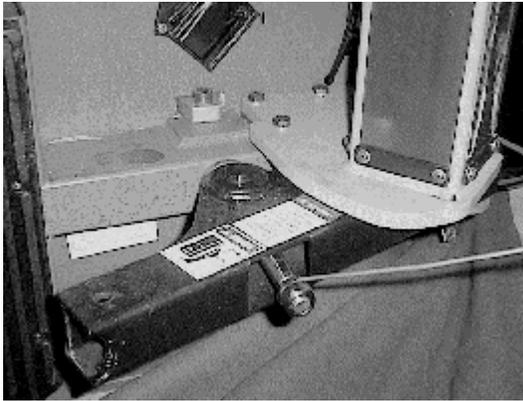

Figure 14
6. Bead Breaker: with bead breaker fully actuated, adjust the cylinder shaft head bolt until you see the outer fiber washer begin to compress. This adjustment prevents the plastic piston from bottoming out, and permits application of full pressure against the bead at any bead breaker opening (*Figure 14*).